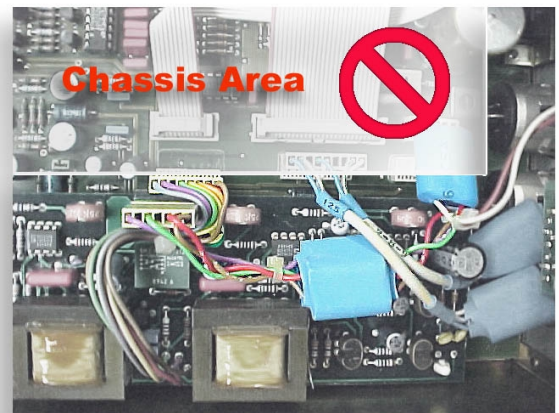

Fig. 6: Wire placement on Main Board (no wires in "Chassis Area"!).
- Reinstall and connect the Main Board. **Caution:** Take care to the placement of the wires with the filters (possibly in shrinking tube) relative to the Line Amplifier (refer to fig. 6). When installing the front panel, these filters must neither be touched nor pinched.